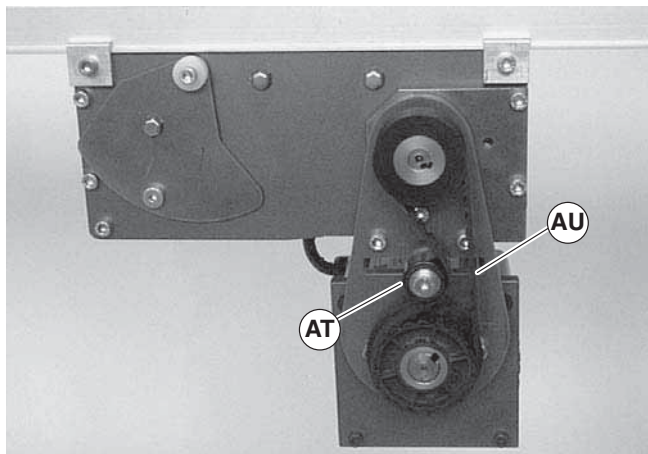

Figure 23
2. Loosen belt tensioner (Figure 23, item AT) then remove timing belt (AU).